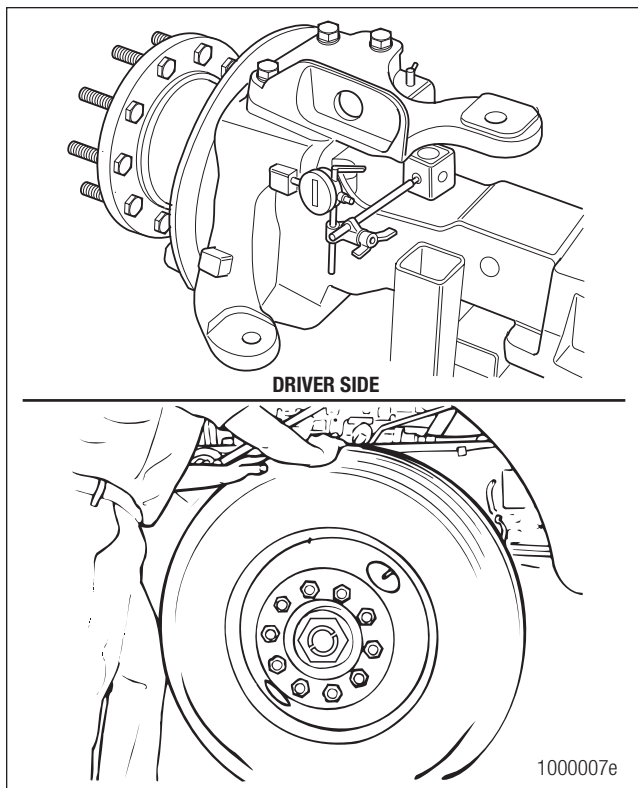

Figure 11.8
3. Check the upper king pin bushing for wear. Install the base of a dial indicator onto the axle beam. Place the indicator tip against the side of the knuckle top, curbside, or the place indicator tip against the king pin cap, driver side. Figure 11.8.
**If the dial indicator moves a total of 0.010-inch (0.254 mm):** The upper bushing is worn or damaged. Replace both bushings in the knuckle. Refer to Section 4 Removal and Disassembly – MX-120 and MX-120-HR Series on page 13 and Section 7 Assembly and Installation – MX-120 Series on page 36. Figure 11.8.